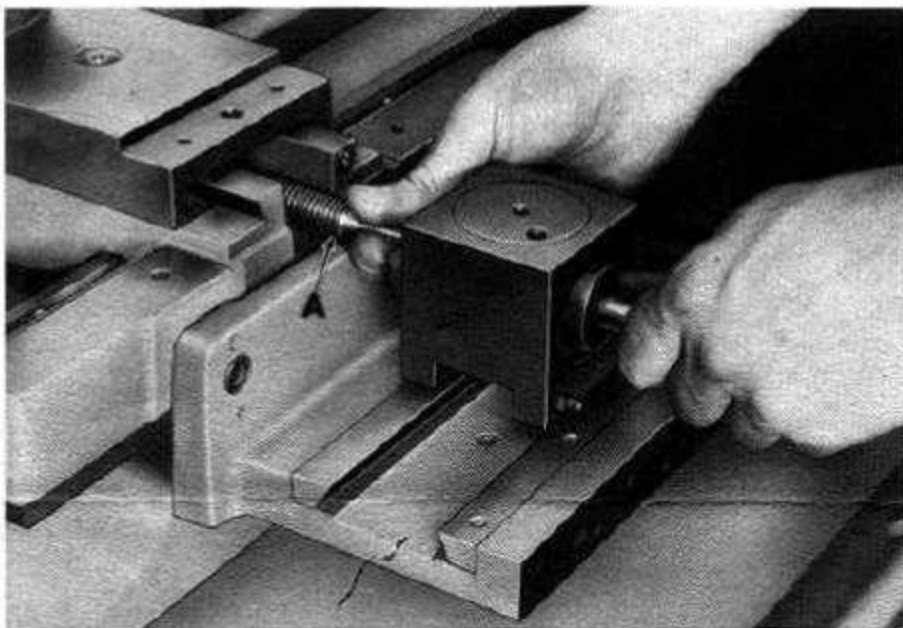

Figure 4
8. Carefully turn splined screw (A, fig. 4) counter-clockwise about 2" on cross feed nut.